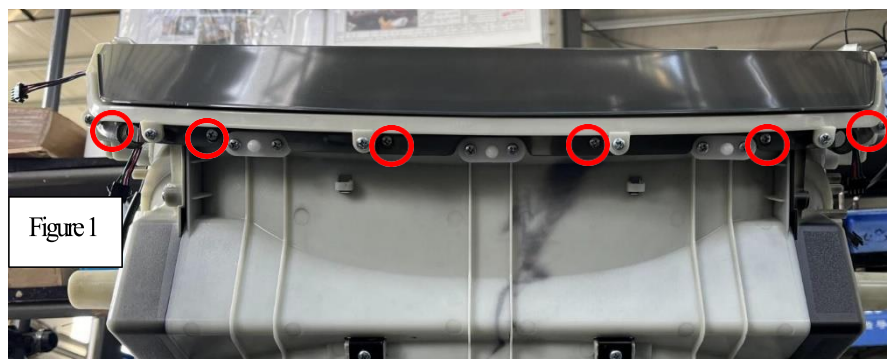

Figure 1
2. 2. 2. 1 As shown in Figure 1, firstly remove 6 screws with tools, then unplug the harness connector and remove the shoulder light strip assembly.
9.1 As shown in the following figure 1, remove the screws fixing the lower frame connecting plate with tools, and then remove the lower frame assembly.